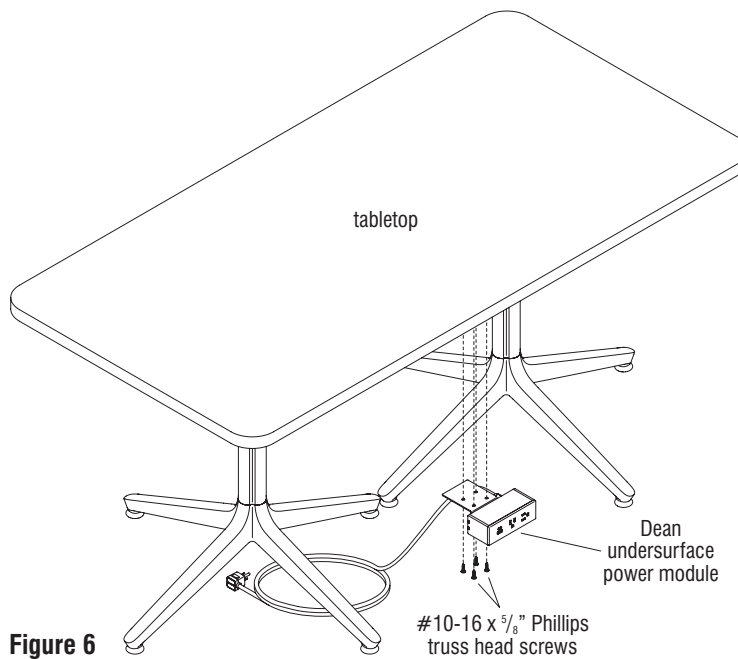

Figure 6
1. With the assembled table in the upright position, align the mounting holes of the Dean undersurface power module with one of the four sets of Dean pre-drilled mounting hole locations underneath the tabletop. Secure the Dean power module to the tabletop using four #10-12 x 3/4" Phillips pan head screws (Figure 6 & Detail F).